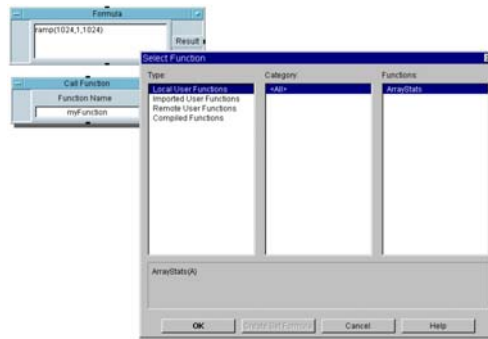

Figure 211 Configuring the Pins for Call myFunction
- 4 Click **Device** ⇒ **Call**, open the object menu, and click Select Function as shown in Figure 211. Then click **OK**. Notice that VEE renames the object automatically and adds the correct pins.